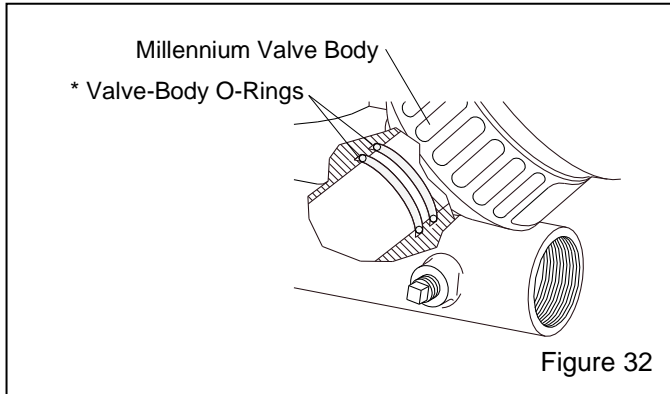

Figure 32
7.3.1.7 Refer to Figure 32 and remove both O-rings from the inside the valve body.
7.3.2.2 Refer to Figure 32 and install new valve-body O-rings.